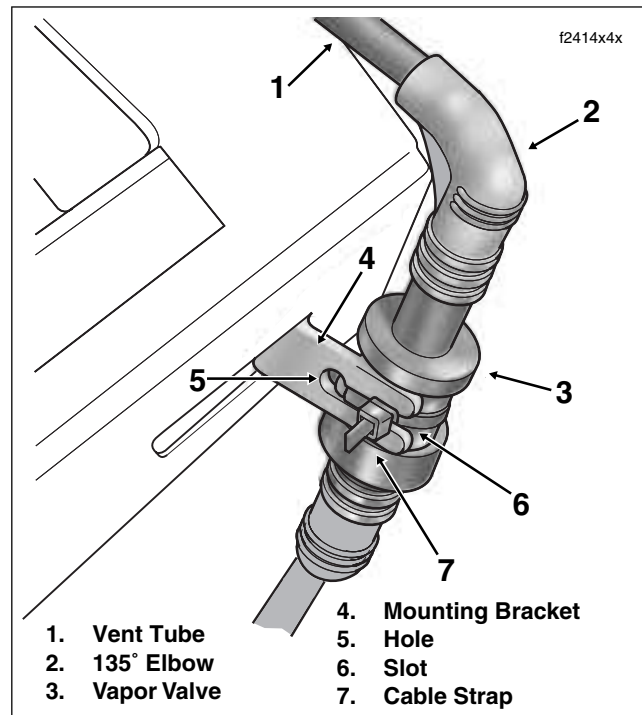

Figure 4-22. Vapor Valve Mounting Bracket (Left Side View)
4. Locate vapor valve attached to mounting bracket on left side of frame crossmember (in front of battery box). See Figure 4-22.
2. From left side of mounting bracket, insert end of small cable strap (P/N 10065) through hole and then around body of vapor valve. Mate ends of cable strap and pull tight engaging strap in slot. Cut any excess cable strap material. See Figure 4-22.